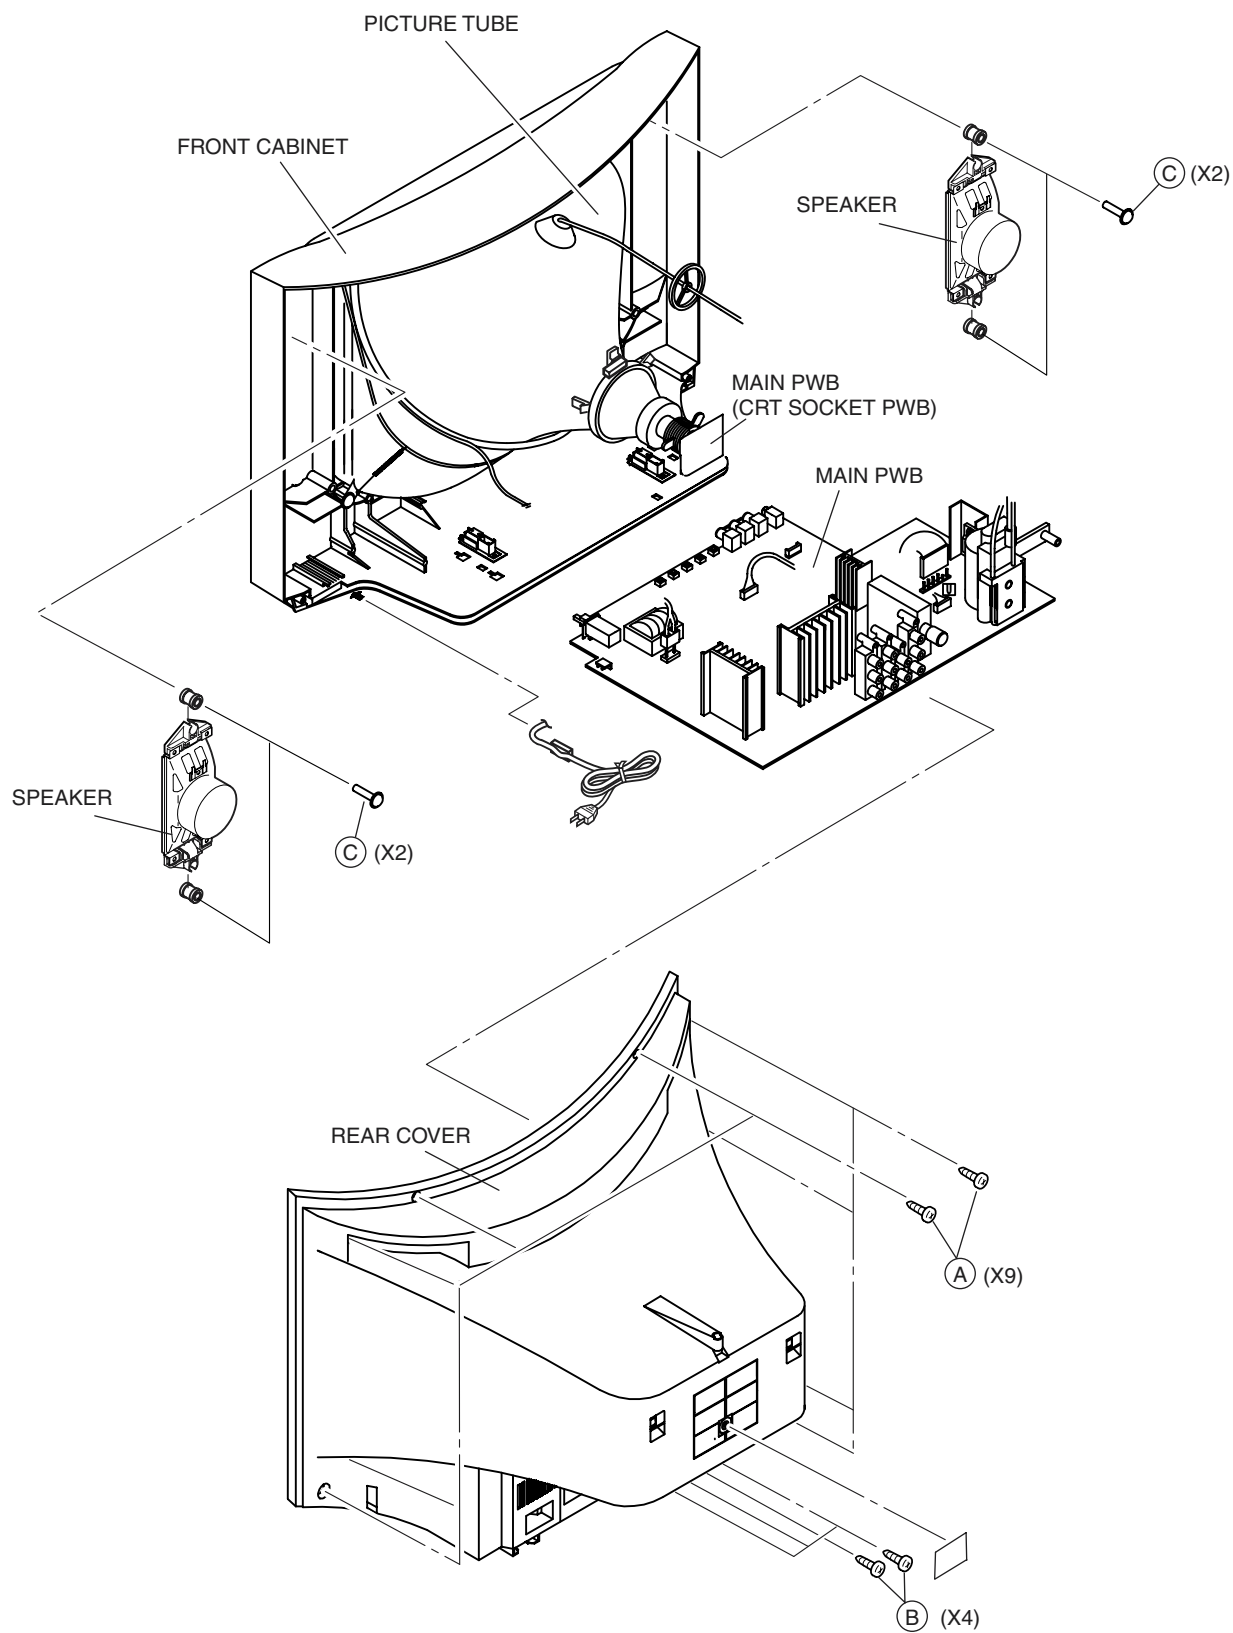

Fig.1
2. Remove the 9 screws marked (A) and 4 screws marked (B) as shown in Fig.1.
1. Remove the 2 screws marked (C) as shown in Fig.1.